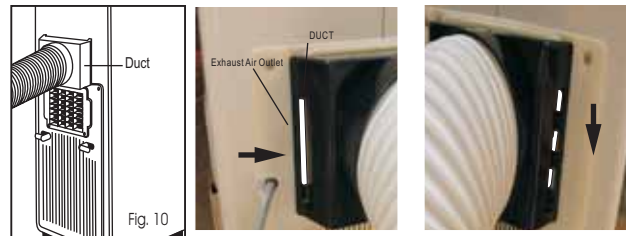

Fig. 10
1) Install the **Flexible Exhaust Hose** Fig.10 and the **Adjustable Window/Patio Door Slider Kit** as depicted in Fig.2,2a & 2b (pg.5)